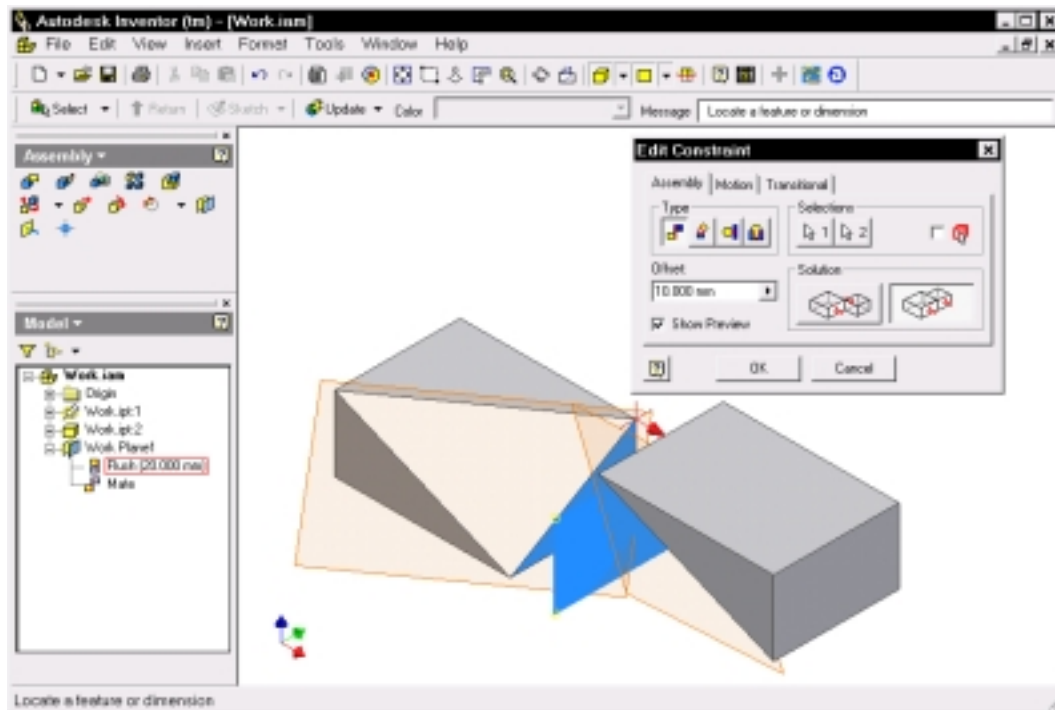

Figure 3-52
17. In the Edit Constraint dialog box, change the offset distance to 30 mm and select the OK button. (See Figure 3-52.)